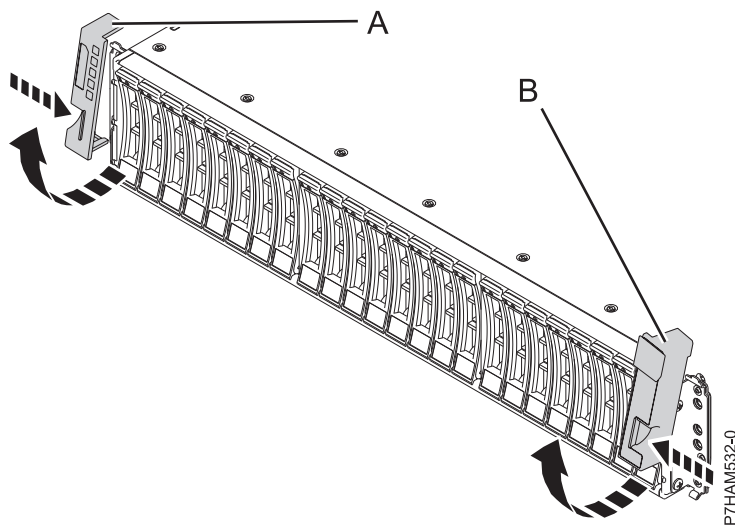

Figure 1. Removing the side covers
3. At the front of the rack, remove the left side cover (A) and the right side cover (B) to show the mounting brackets. Pinch the release to rotate the cover up and off from the chassis flange as shown in Figure 1.